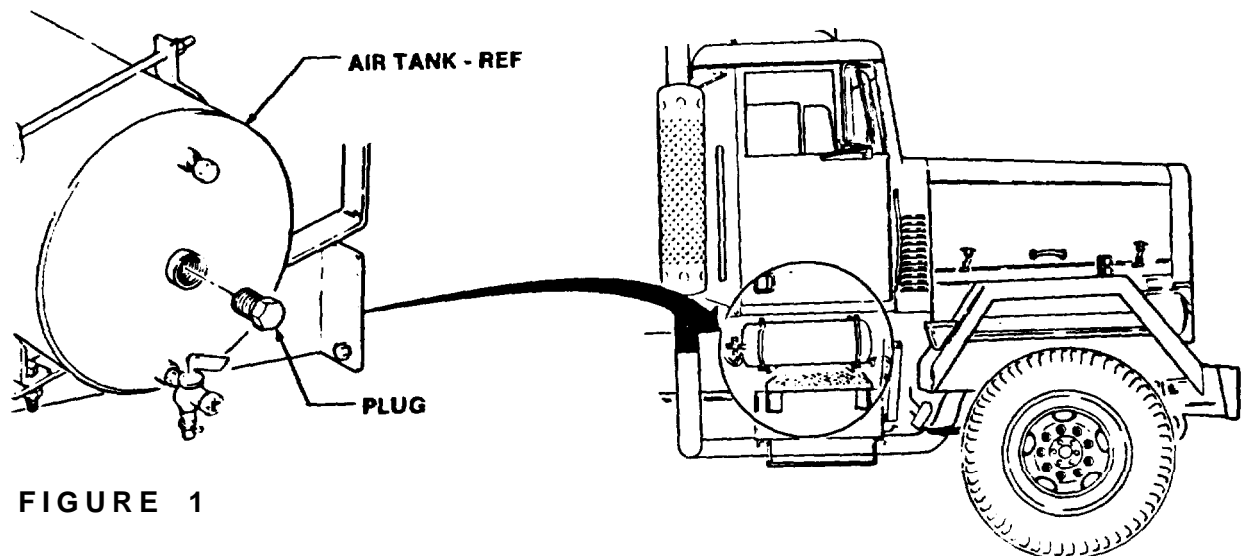

FIGURE 1
- (1) Drain air system (refer to TM 9-2320-273-10).
- (2) Remove plug from front of air tank as shown in figure 1.